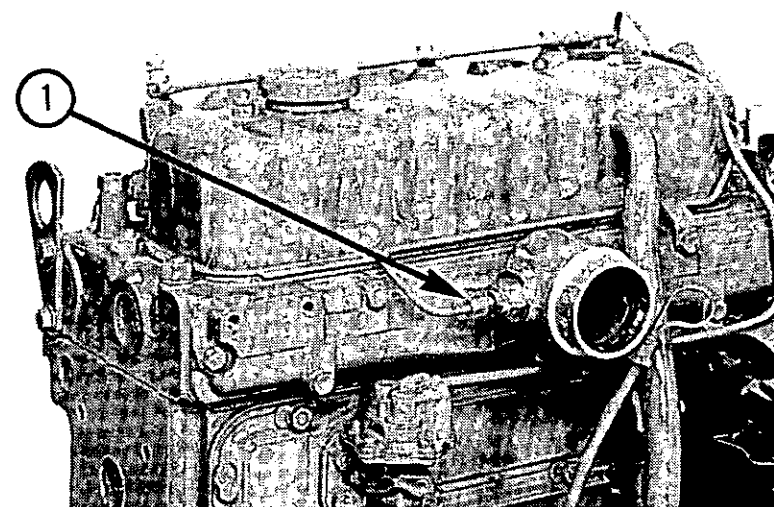

Fig. 19 Union nut at Thermostart connection
10 If the fuel pipe to the Thermostart cold starting aid has been drained, loosen the union nut (1) at the Thermostart (see fig. 19).